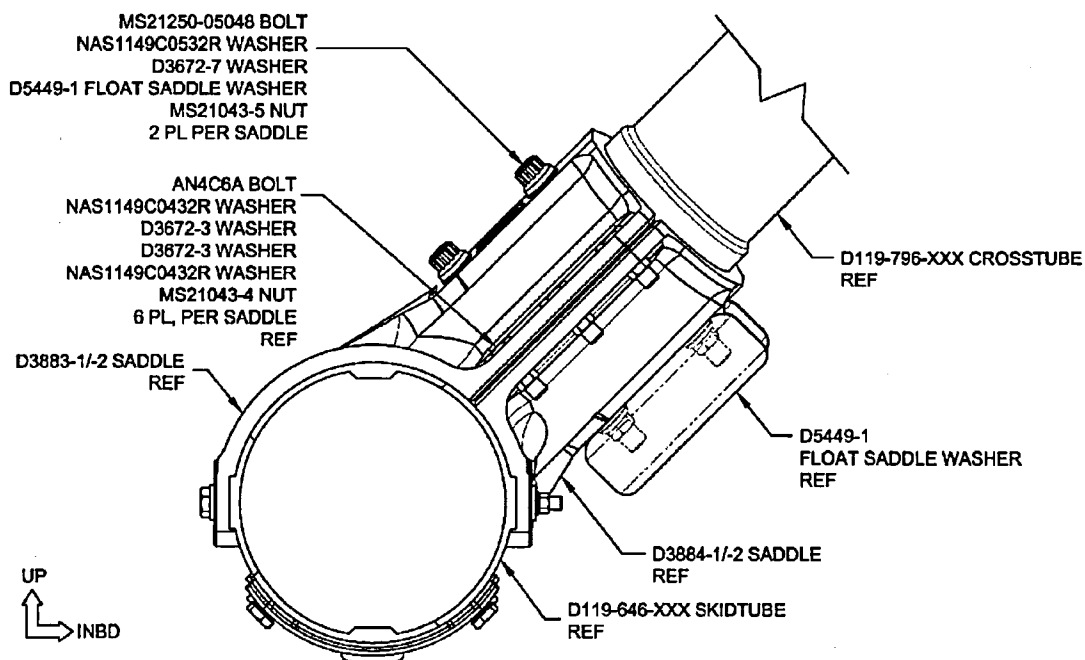

Figure 3.1b/32.4b Installation of D119-796-XXX Crosstube to Dart D119-646-XXX Skidtubes
2.1 Refer to section 3.1 of IIN-D119-796 Rev. E and earlier; rename Figures 3.1 and 3.2 to Figure 3.1a and 3.2a respectively. Insert Figure 3.1b and 3.2b from this service instruction.
Customers installing Emergency Float Kits are required to procure the D119-796-015 Float Protection Kit. For customers installing Emergency Floats, substitute the inboard NAS1149C0532R & D3672-7 Washers with the D5449-1 Float Saddle Washer as shown in Figure 3.1b.